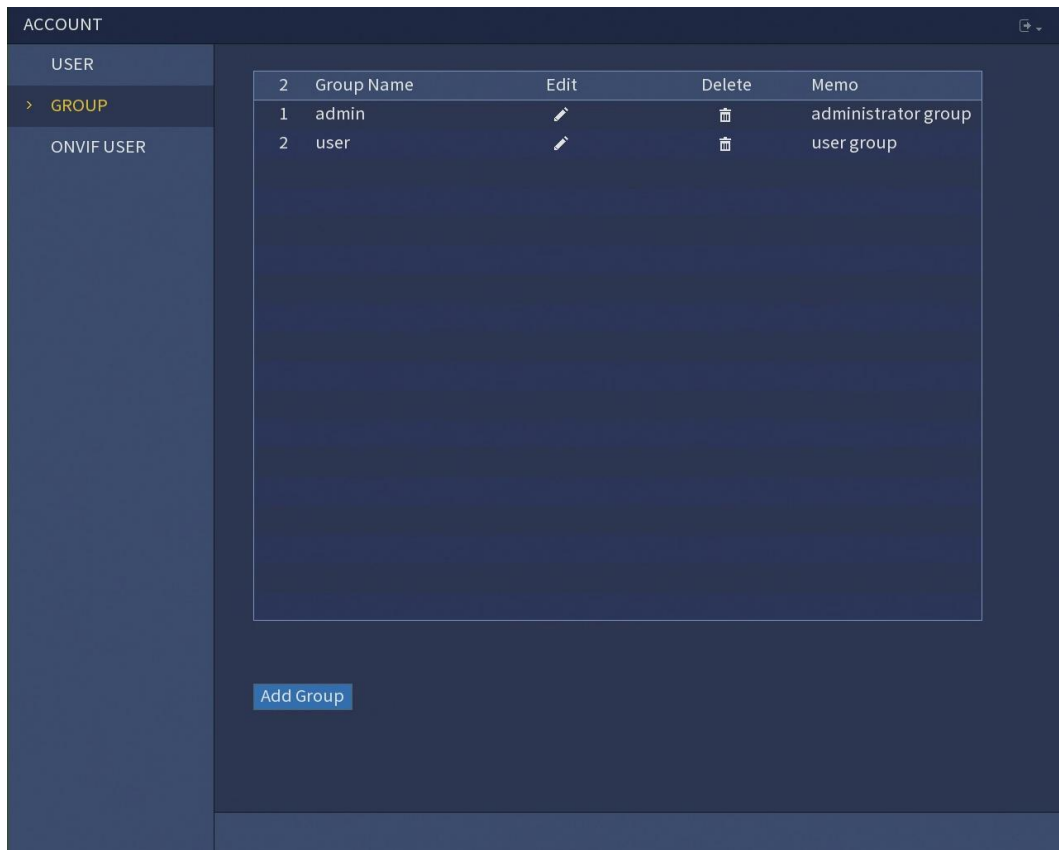

Figure 5-130
- The **GROUP** interface is displayed. See Figure 5-130.